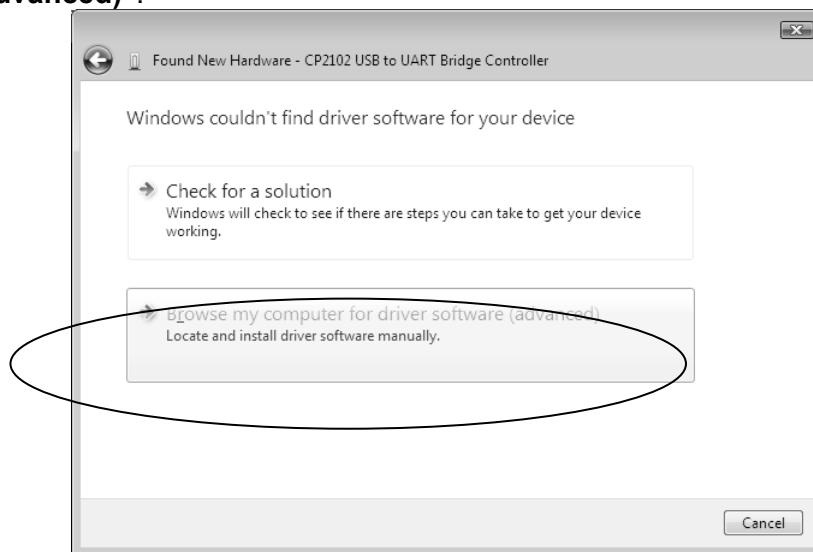

Fig. 46 New Hardware search wizard
(9) Click **Next** and the screen shown in Fig.46 appears. Select **"Browse my computer for driver software (advanced)"**.